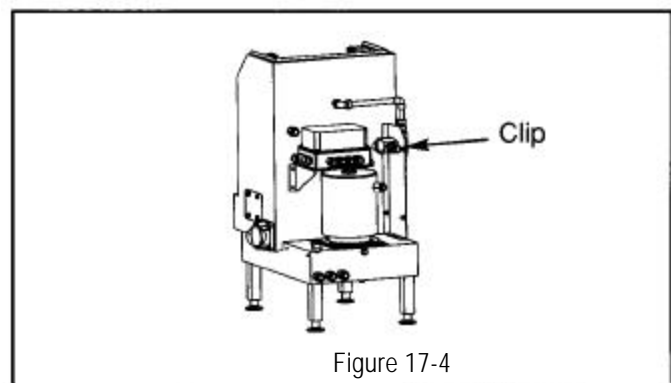

Figure 17-4
8. Remove clip securing solenoid valve to body (see figure 17-4).